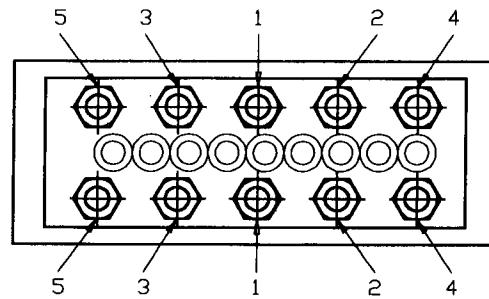

FIG. 2
1. When tightening cover nuts always follow the sequence shown in Figure 2 beginning with the nuts at the center of the cover and working alternately towards the nuts at the ends of the cover. When removing these nuts, follow the reverse procedure, beginning with the nuts at the ends of the cover and working toward the center.
2. Torque all nuts to 10 ft/lbs. using sequence as shown in Figure 2.